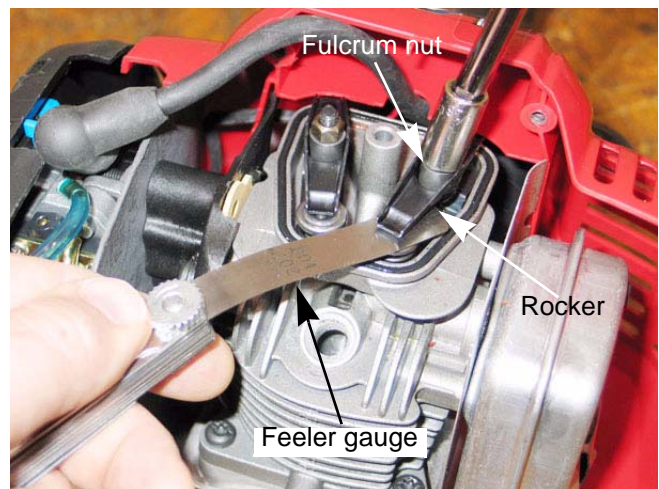

Figure 2.14
4. Check the valve lash by inserting a feeler gauge between the rocker arm and the valve stem. To adjust the valve, loosen or tighten the fulcrum nut with a 8mm wrench until there is a slight drag on the feeler gauge. See Figure 2.14.